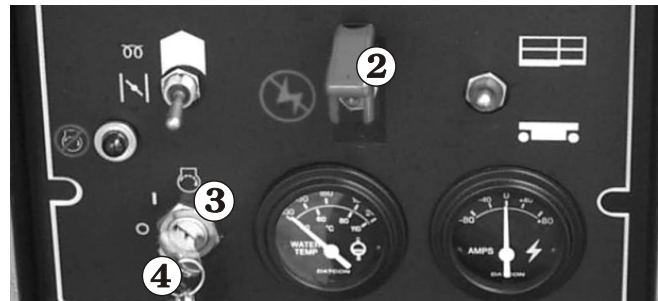

Figure 9.8
2. At the ground control box set the **EMERGENCY STOP** switch ② to off, turn the **MAIN POWER** switch ③ off and remove the key ④ (see Figure 9.8).